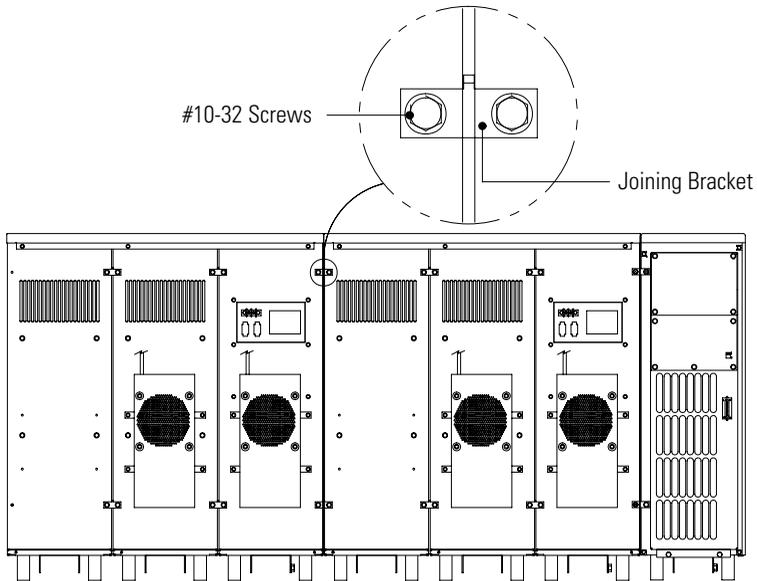
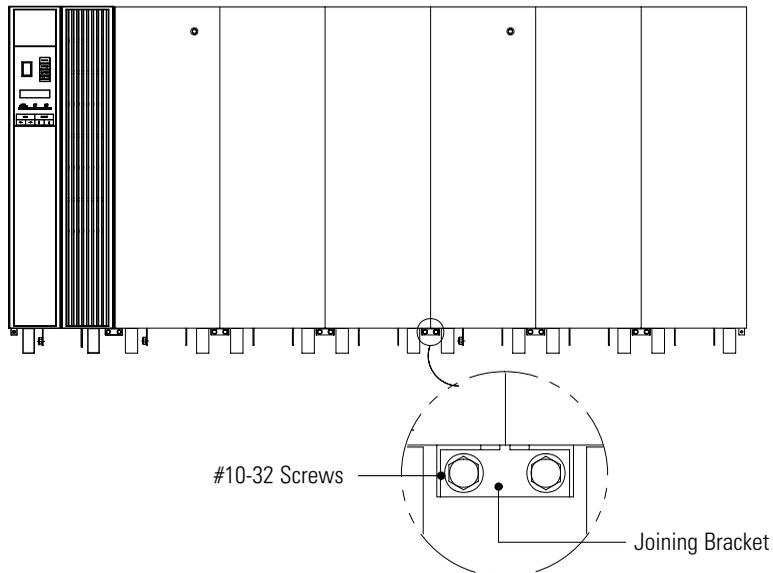

Figure 16. EBCU Joining Details (Rear View)
Figure 17. EBCU Joining Details (Front View)
11. With the cabinets now in their final position, join the cabinets together using the hardware provided in the kit tied to the rear of each unit. See Figure 16 and Figure 17 for joining details.